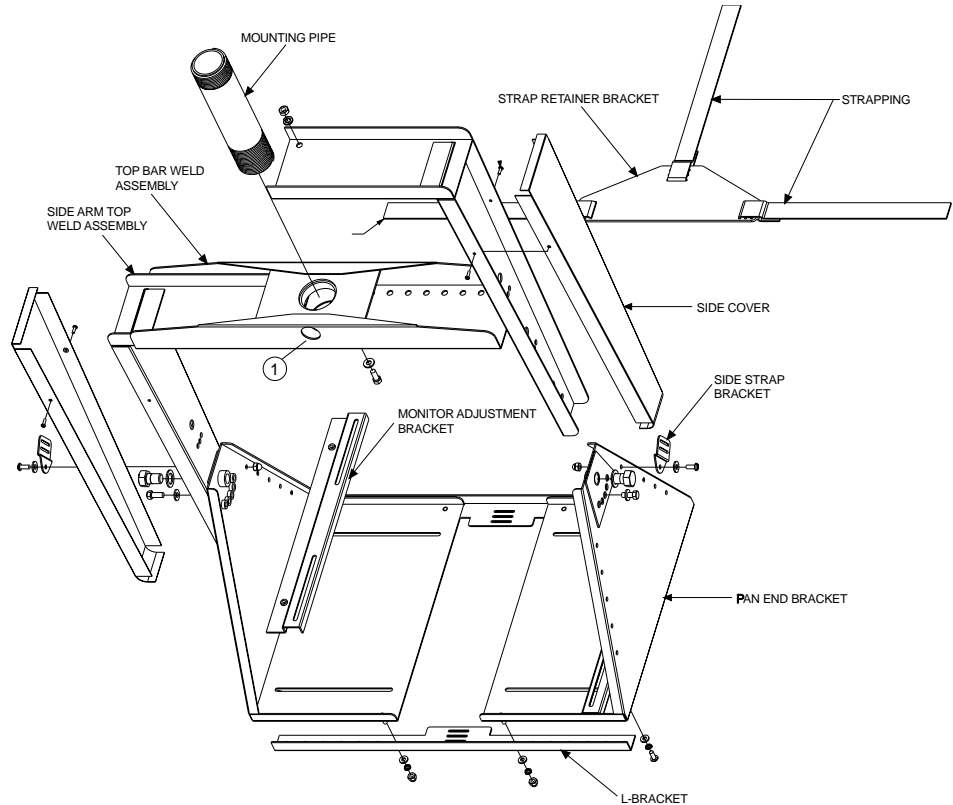

Figure 2. Hanger Assembly
Refer to Figure 2.
13. Thread the mounting pipe into the opening located in the middle of the top bar. Locate the hole, see ① Figure 2, in the side of the top bar weld assembly. Tighten the 8-32 Phillips screw, already located in the bar, to lock the mounting pipe into place.